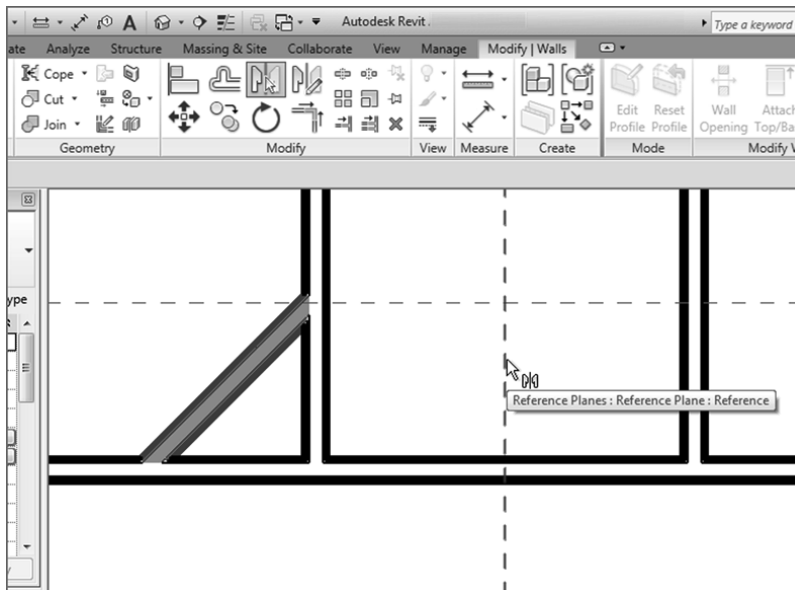

FIGURE 2.43: Using the Mirror command in conjunction with a reference plane is a good example of thinking ahead.
3. Pick the vertical reference plane, and *voilà!* The wall is mirrored, as shown in Figure 2.43.